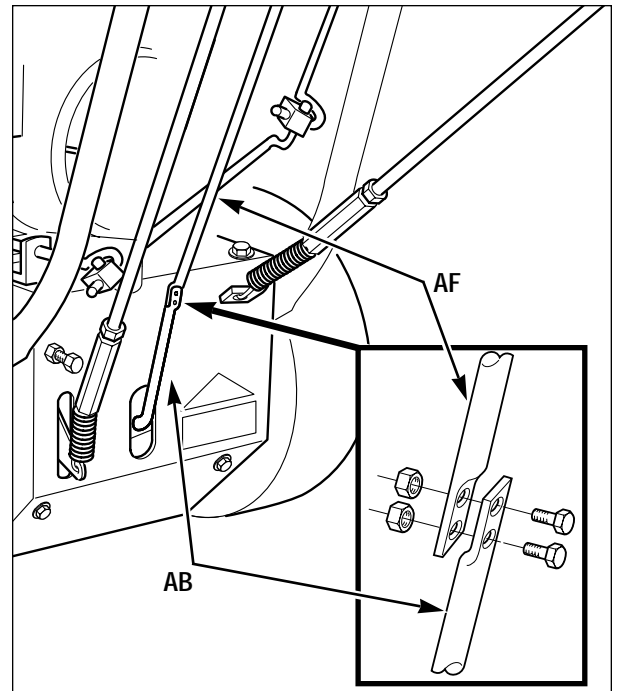

Figure 2-8
2. Gently push the transmission shift arm (AB, Figure 2-8) fully downward.
3. Align the holes in the transmission shift arm (AB) and the lower end of the gear shift control rod (AF). If the holes do not align, follow the *Gear Shift Rod Adjustment* procedure in Section 5.
4. Use two 1/4-20 x 3/4 hex head screws and 1/4-20 locknuts (Figure 2-8) to attach gear shift control rod (AF) to transmission shift arm (AB).